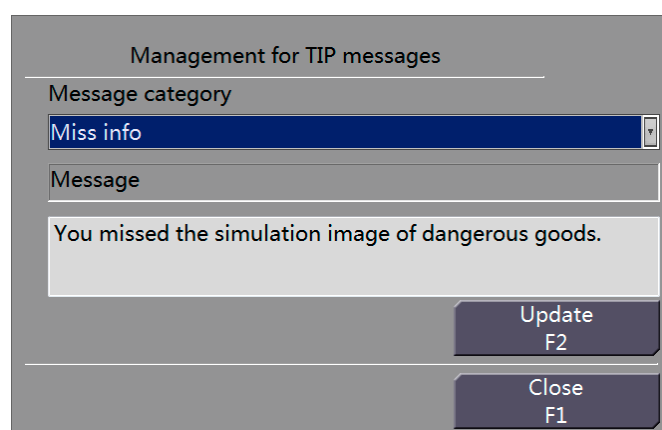

Figure 16-13 TIP Prompt Information Update Interface
Step 2 Select one type of information, click "Update", the interface shown in Figure 16-13 will pop up. Input the prompt information as needed and then click "Close" to finish the information setting.